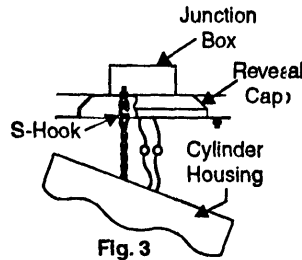

Fig. 3
- Hang cylinder housing from reveal cap by attaching S-hook to eyelet as shown in Fig. 3. Use pliers and crimp S-hook onto eyelet. This will now allow for handsfree connections to supply leads.